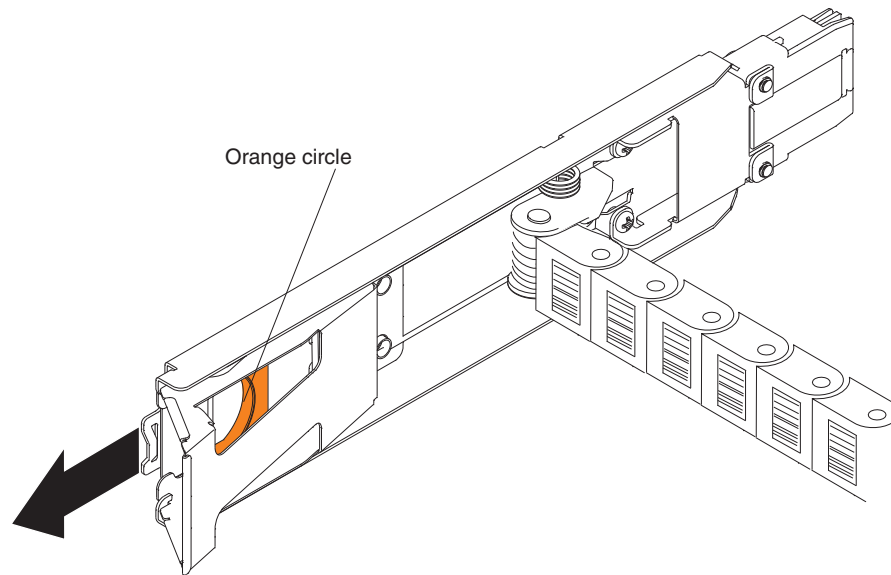

Figure 84. Vertical mounting bracket that connects to the midplane
- c. Disconnect the right cable chain mounting bracket from the midplane. Hold the orange handle (see Figure 84), and pull the mounting bracket completely out of the storage expansion enclosure. If necessary, use a flashlight to see the orange handle.